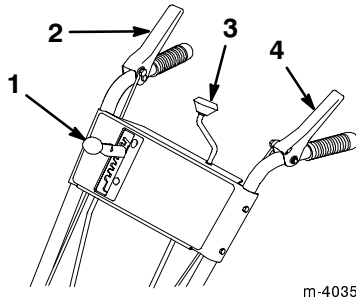

Figure 19
9. Operate the discharge chute control (Fig. 19). If the discharge chute control binds, apply a light coat of grease to the worm gear and move the worm gear slightly outward.
- **Auger/Impeller Drive Control Lever** (Fig. 19)—To engage both the auger and the impeller, press the lever against the right handgrip. To disengage, release the lever.
- **Speed Selector** (Fig. 19)—This control has five positions: two reverse and three forward speeds. To change speeds, move the speed selector to the desired position. The lever locks in a notch at each speed selection. The speed selector may shift with difficulty in heavy load conditions.
- **Discharge Chute Control** (Fig. 19)—Rotate the discharge chute control clockwise to move the discharge chute to the right; counterclockwise to move the chute to the left.
- **Traction Control Lever** (Fig. 19)—To engage the traction (wheel drive), press the lever against the left handgrip. To stop the traction, release the lever.
2. Make sure that the auger/impeller drive control lever and the traction control lever are in the *Disengaged* position (Fig. 19).
10. Move the speed selector (Fig. 19) to first gear, squeeze the traction control lever to the handgrip, and then release the traction control lever. If the snowthrower moves forward before engaging the traction drive control lever or after releasing the lever, see *Adjusting the Traction Drive* on page 25.
4. Release the traction and the auger/impeller drive control levers (Fig. 19).